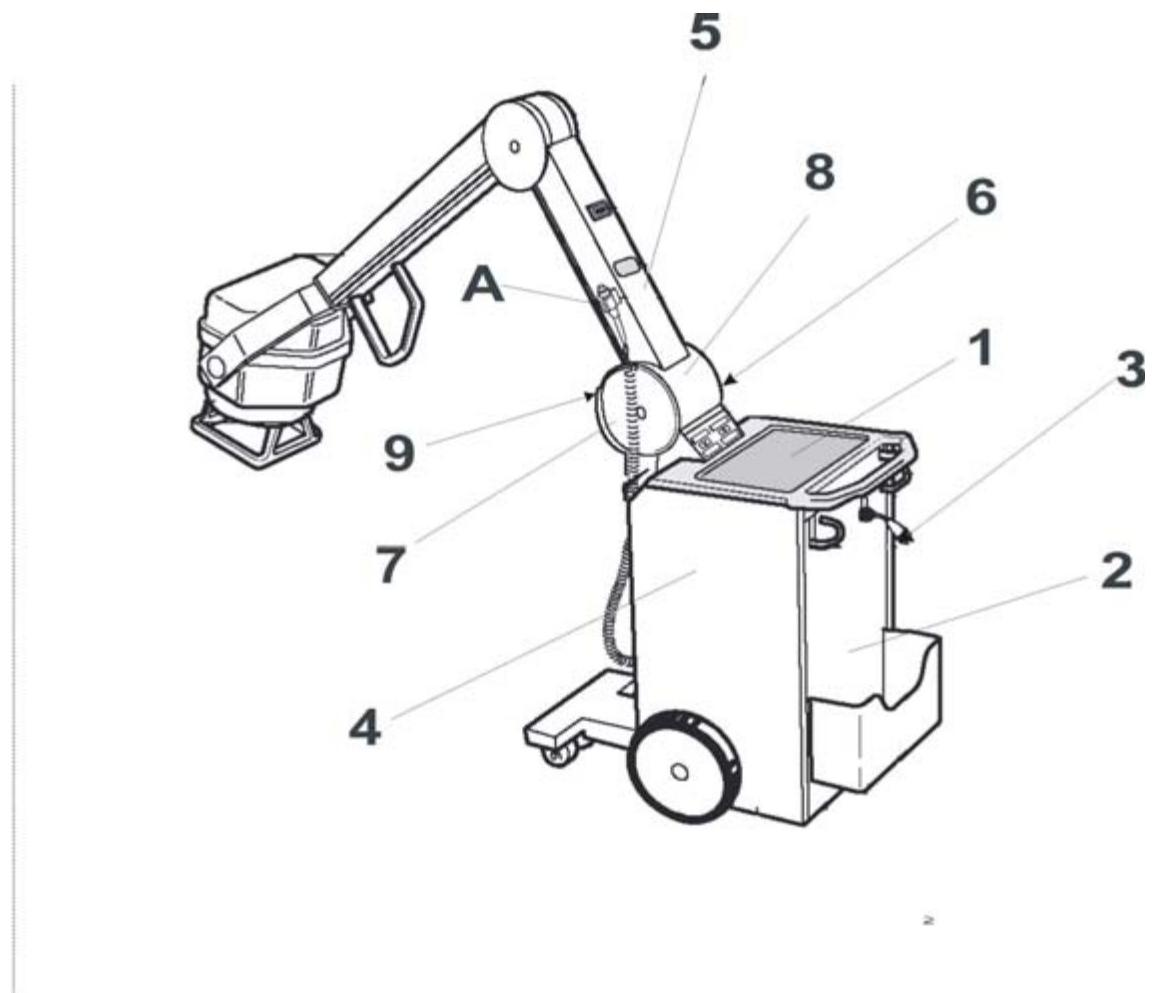

Fig. 3: Remove covers
- Remove the exposure switch first (A/Fig. 3 / p. 7).
- Then remove the covers in the following order (1-9/Fig. 3 / p. 7).
- Replace all covers in reverse order (1-9/Fig. 3 / p. 7).